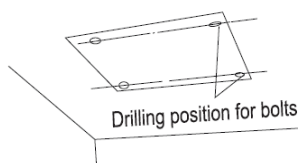

Fig.5
- 1). Using the installation template, drill holes for bolts (four holes). (Fig. 5)